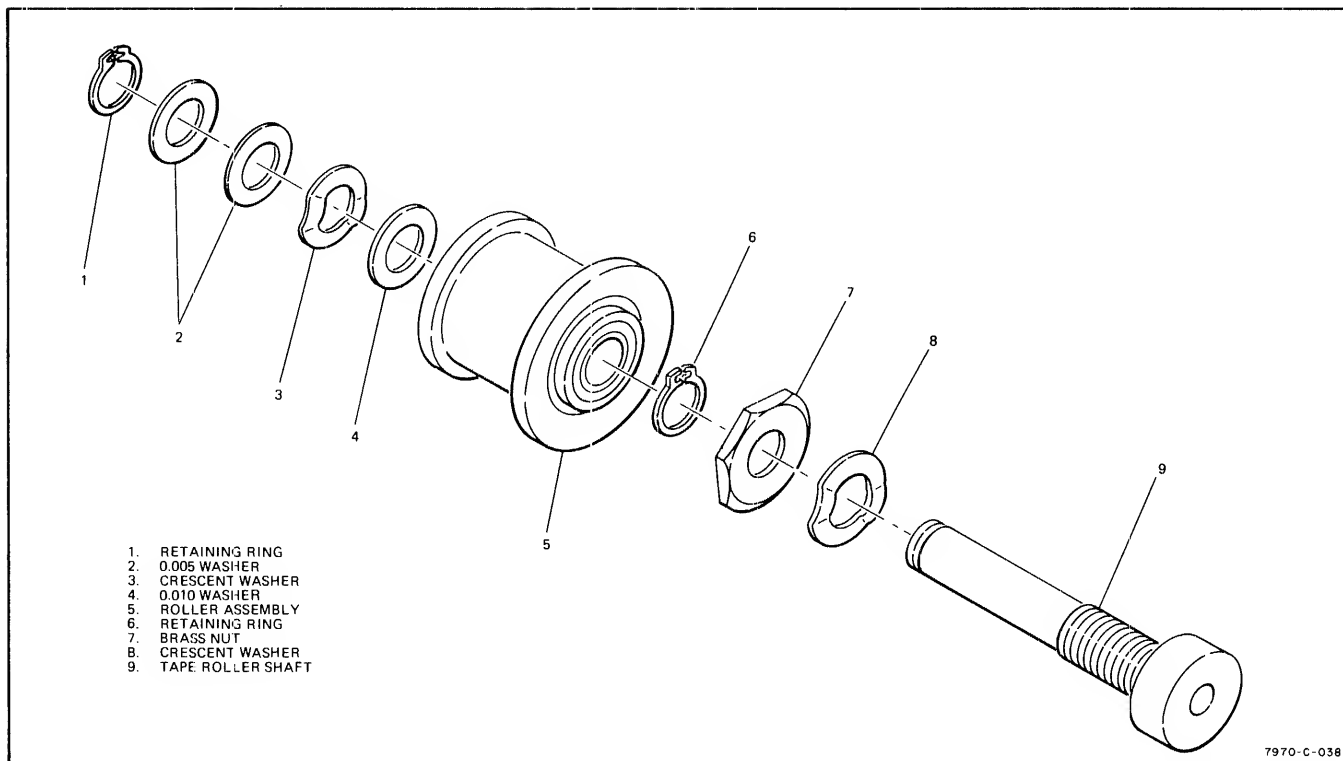

Figure 5-1. Tape Roller Assembly
- a. Ensure that brass nut (figure 5-1, item 7) is torqued to 5 inch pounds.
- b. Install assembly components as indicated in figure 5-1. Use retaining Ring Pliers (Walder 18-23; Industrial Retaining Ring Corp. Pl00; or equivalent). Avoid distorting retaining ring.